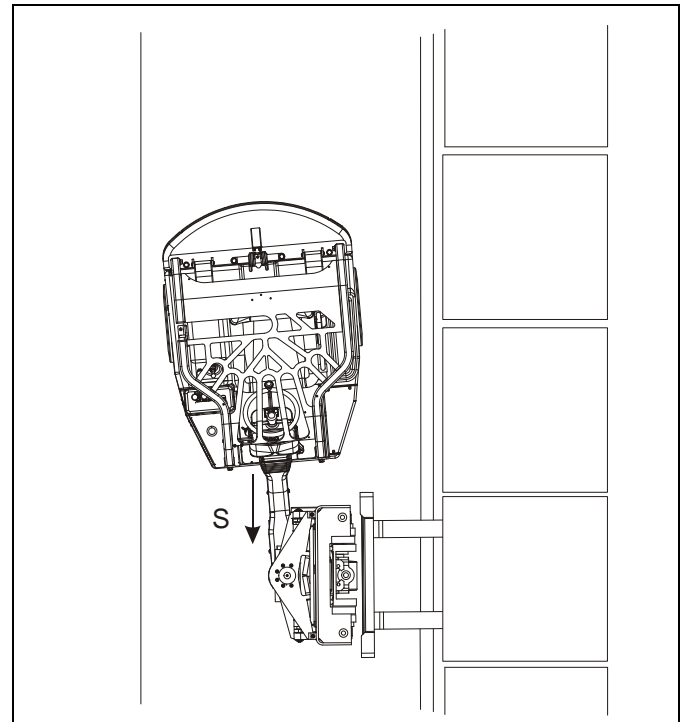

Figure 4-12: Positioning the Forks
6. Stop the forklift and turn the forks 90° using the steering wheel to align them with the load. See Figure 4-12.